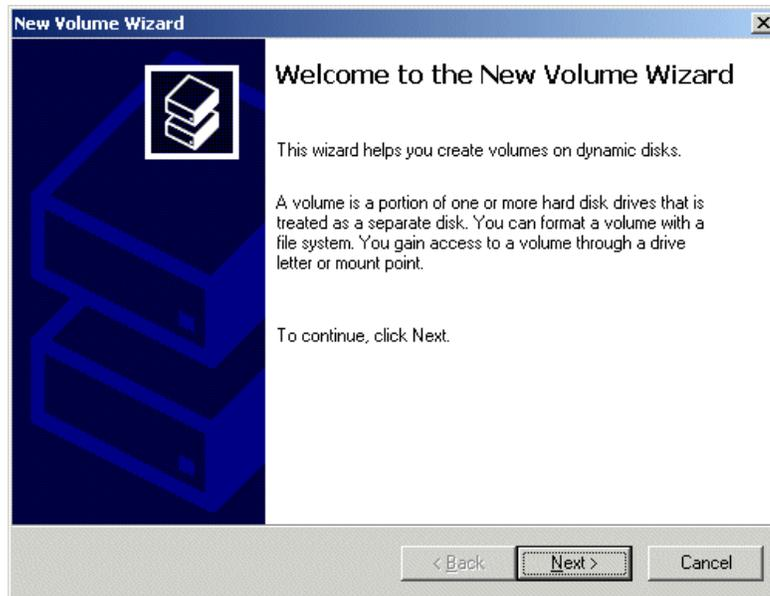

Figure 2-23. The New Volume Wizard
23) Observe the **New Volume Wizard** appear as shown in Figure 2-23.